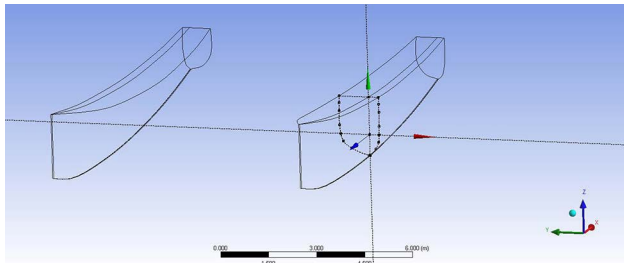
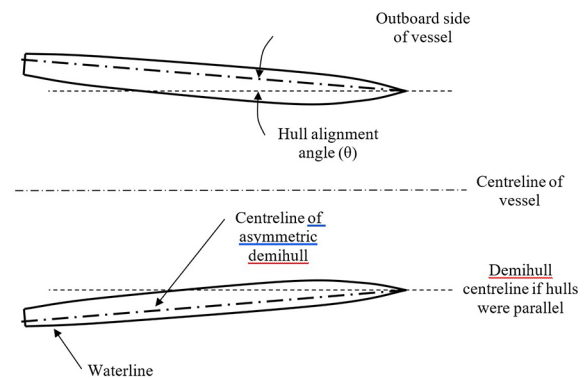

Figure 2 Line drawing of demihulls
Figure 5 Demihull alignment
Using the asymmetrical sailing hullform shown in Figures 2, 3, 4 and 5, the longitudinal hull alignment was varied about the forward perpendicular (FP) of each hull, with the stern of each demihull angled out (see Figure 5). The total hydrodynamic resistance was calculated utilising the Ansys CFX computational fluid dynamics package.
Variations in the hull alignment are measured as an angle from the centreline of the vessel, as illustrated in Figure 5.
For the hullform and single hull speed chosen (namely the maximum displacement hull speed of a sailing catamaran, see Equation 1), associated with small variations in the hull alignment angle (see Figure 5) measurable differences in the total resistance were observed.